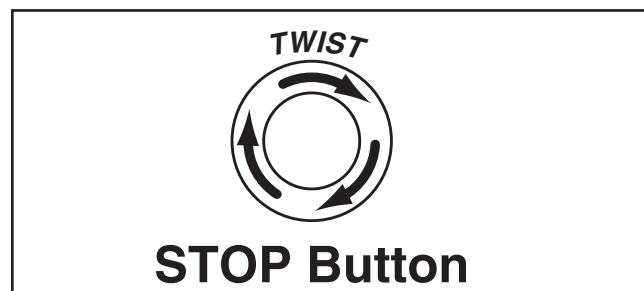

Figure 12. Resetting the main power EMERGENCY stop button.
5. Push the main power EMERGENCY stop button in, then twist it clockwise so it pops out. When the button pops out, the switch is reset and ready for operation (see **Figure 12**).